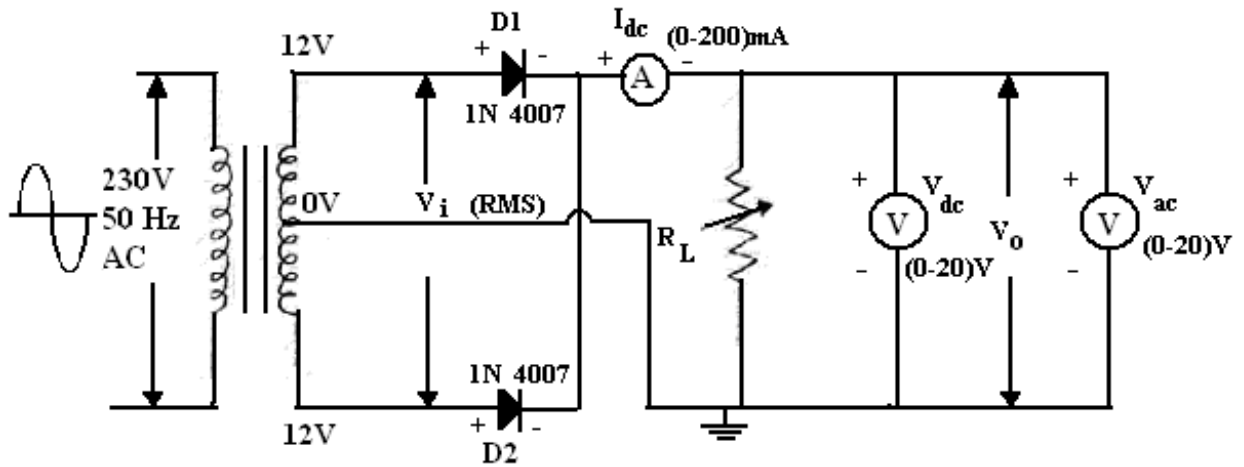

Fig. 1: Centre tapped rectifier without filter
1. Connect the circuit as shown in the figure 1.